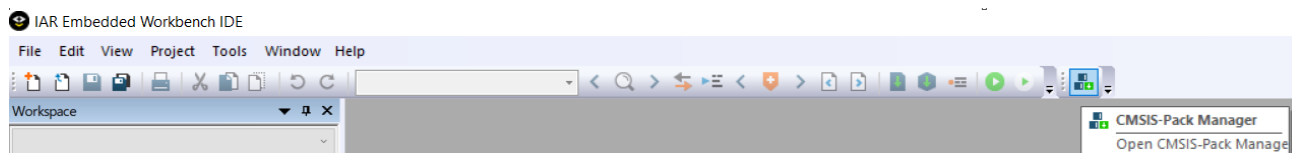

Figure 32. Pack Installer Icon
2. Navigate to **Project > CMSIS Pack Manager**, or click on the icon shown in the "Pack Installer Icon" figure (Figure 32).